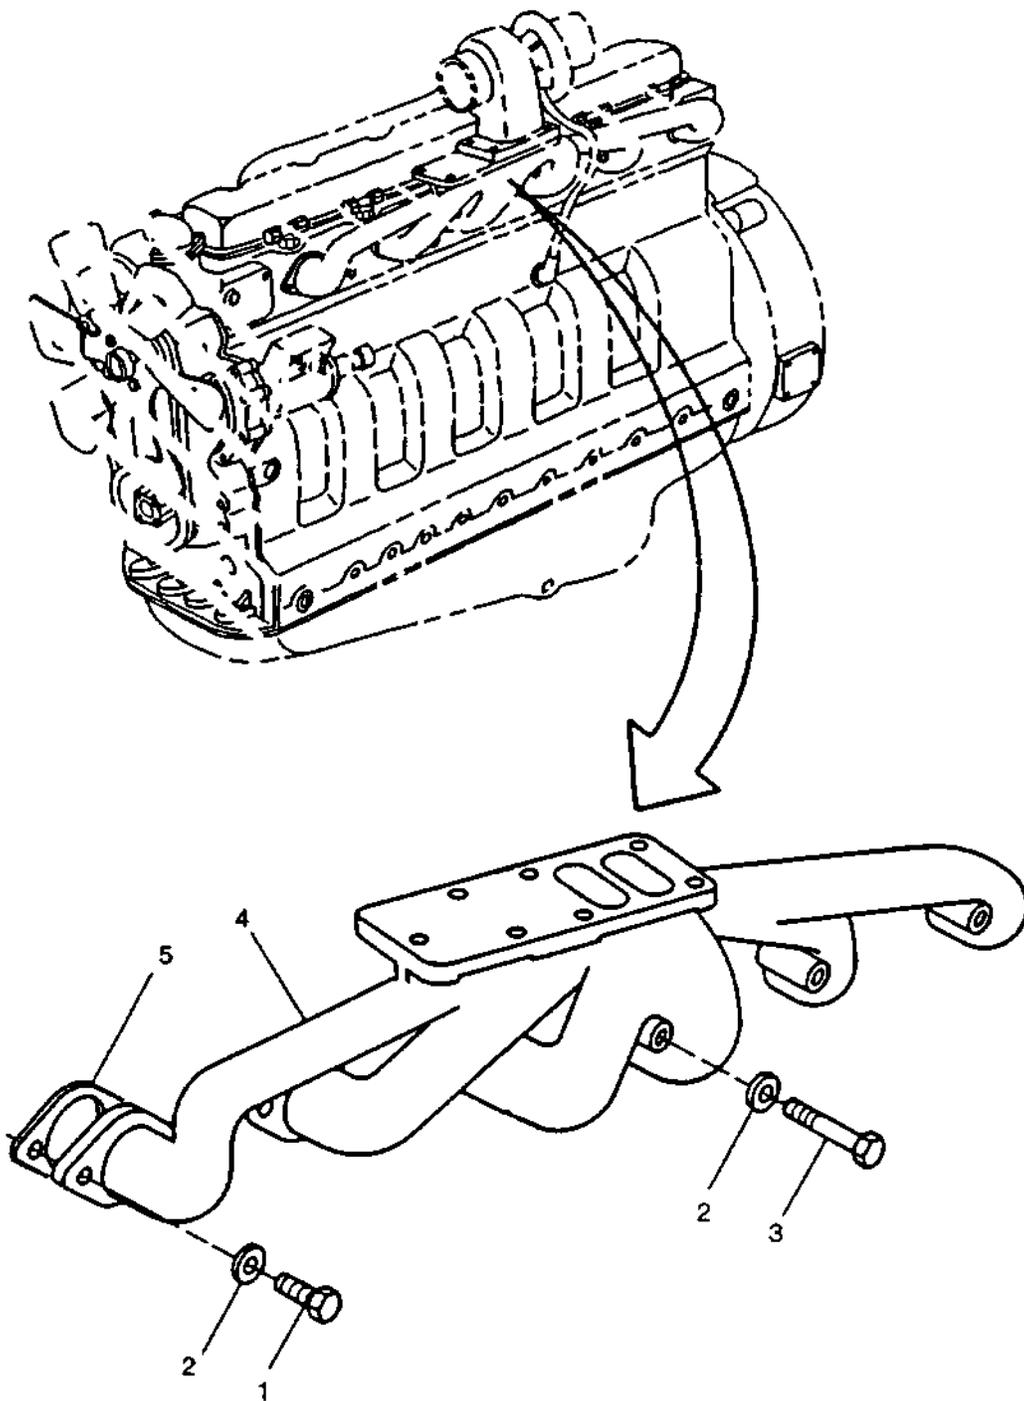

FIGURE 3-44. Exhaust Manifold
- b. Remove eight capscrews (1 and 3, FIGURE 3-44) and washers (2), securing exhaust manifold (4) to engine. Remove manifold and six gaskets (5); discard gaskets.
- b. Using six new gaskets (5, FIGURE 3-44) position exhaust manifold (4) on cylinder head. Coat all twelve capscrews (1 and 3) with antiseize compound (CP-8) and install with washers (2) in locations as noted during removal. Tighten capscrews to 35 ft-lbs (47 Nm).